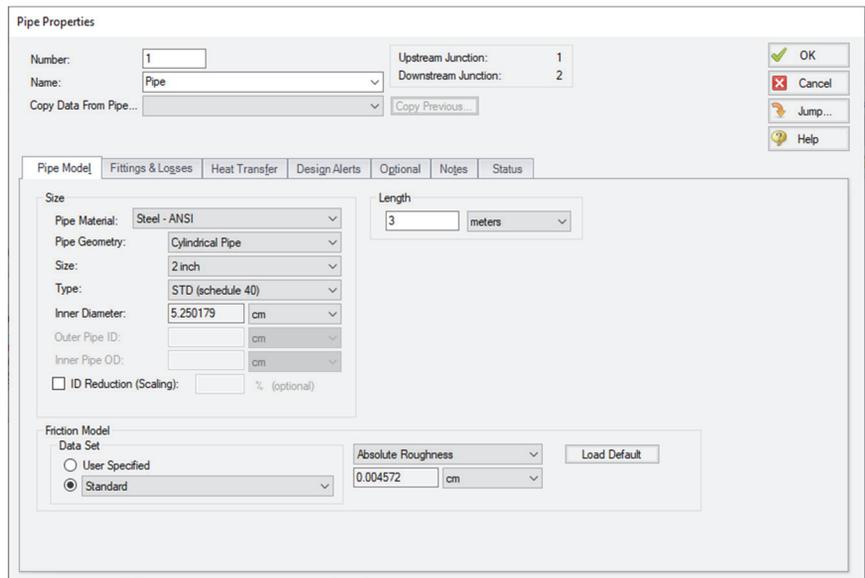

Figure 2.12 Properties window for Pipe P1
- **First, open the Pipe Properties window for Pipe P1** (see Figure 2.12). For Pipe P1 enter Steel - ANSI, 2 inch (5.25 cm ID), STD (schedule 40), Standard friction model, and a length of 3 meters.